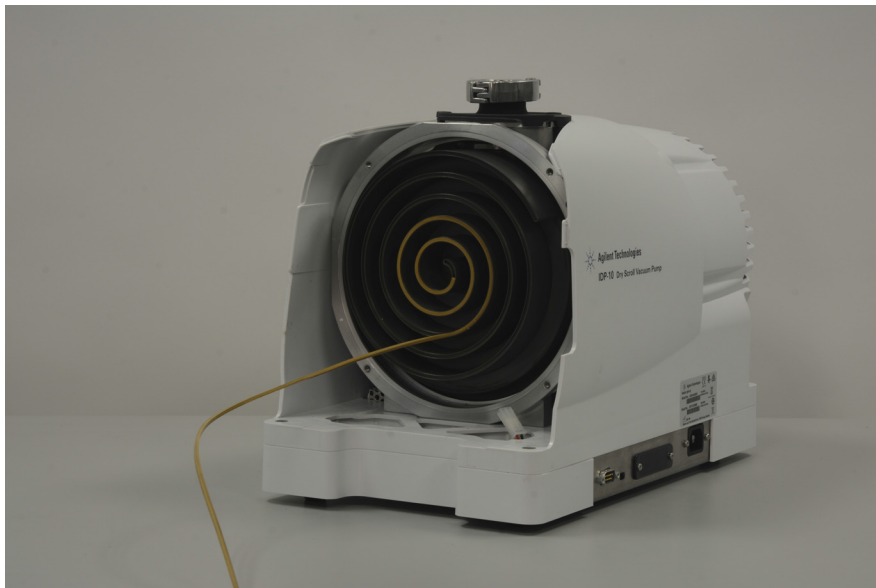

Figure 18. Installing a new tip seal
- 16 Take the spiraled end of the new tip seal and, starting 8-12 mm from the inner end of the tip seal groove on the orbiting scroll, press the seal into the groove (see Figure 18). Work your way out until you reach the outer end of the groove.